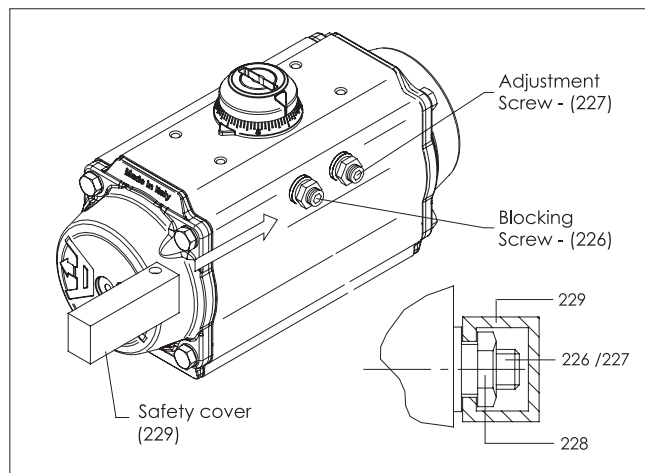

Figure 22.
- A. Insert the Safety Cover (229) between the Special Nuts (228) and Washer (03) as shown in (Figure 22).
- B. Then insert in the hole of the Safety Cover the Padlock (230) and lock it.
6. DECLUTCHABLE MANUAL OVERRIDE (DO)